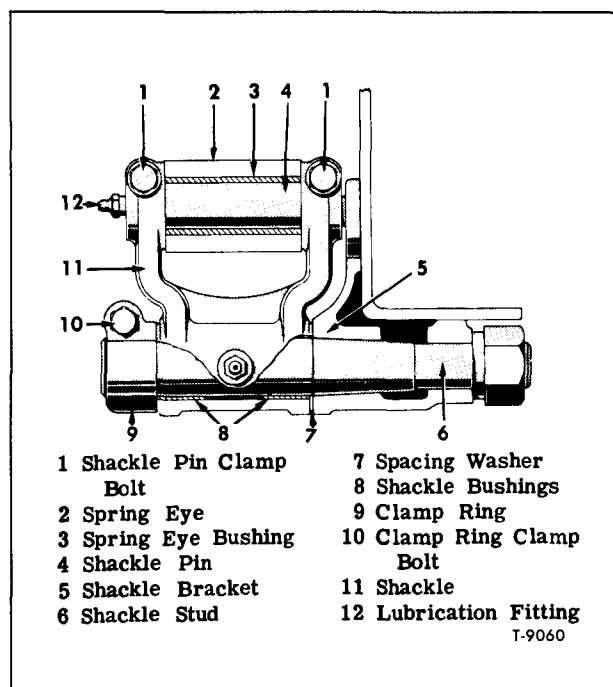

Figure 6—Rear Spring Rear Shackle Installation
Rear springs are shackled at rear end as illustrated in figure 6. Shackle stud is secured in shackle bracket by a nut and washer, and shackle is retained on stud by a clamp ring (nut) and clamp bolt.
**REAR SPRING SHACKLE PIN OR BRACKET REPLACEMENT (Fig. 6)**
**REAR SPRING SHACKLE OR SHACKLE BUSHING REPLACEMENT (Fig. 6)**